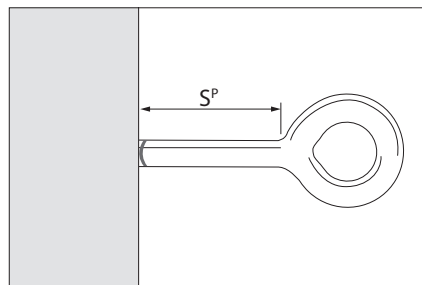

Fig. A12.02
- The eyebolt (100) including the ring must not protrude more than 7 cm from the anchoring base. This is ensured when the eyebolt is screwed in up to the last mark in front of the ring. (Fig. A12.02)